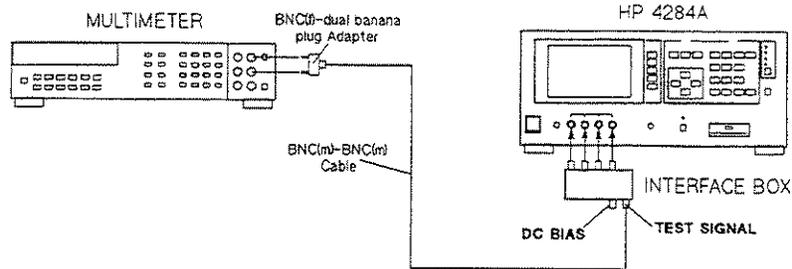

Figure 10-2. Test Signal Level Accuracy Test Setup Using an Interface Box
1. Set up the equipment as shown in Figure 10-2.